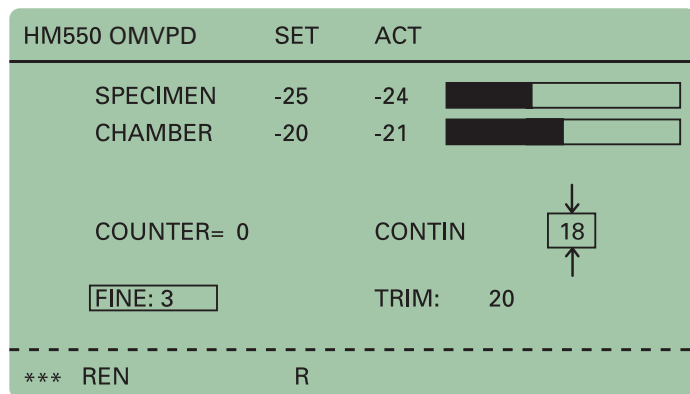

Figure 15. Setting section thickness and trimming thickness.
- The selected setting is shown inverted on the display (fig. 15).